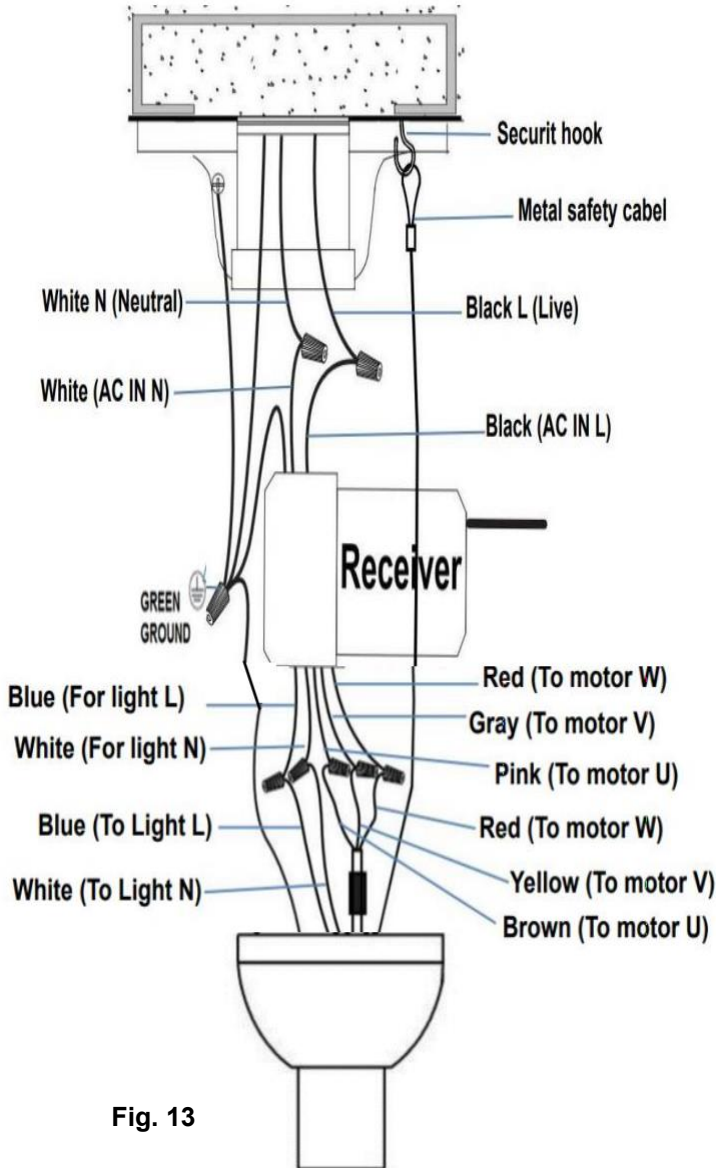

Fig. 13
- Complete the electrical wiring according to the 'ELECTRICAL WIRING DIAGRAM' section below. (Fig.13)
1. Connect the household live supply wire (black) to receiver input wire (black, AC IN L) as shown in (Fig. 13)